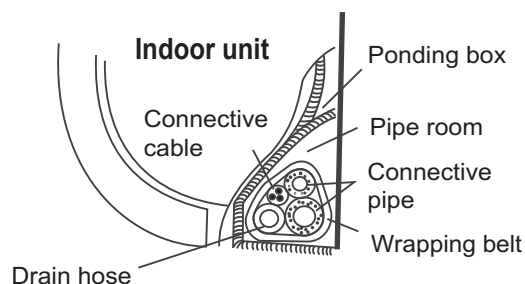

Fig.11
Bundle the tubing, connecting cable, and drain hose with tape securely, evenly as shown in Fig.11.
- Regulate the panel in the direction of the arrow in Fig.11 slightly to fit the panel's center to the center of the ceiling's opening. Confirm that hooks of four corners are fixed well.